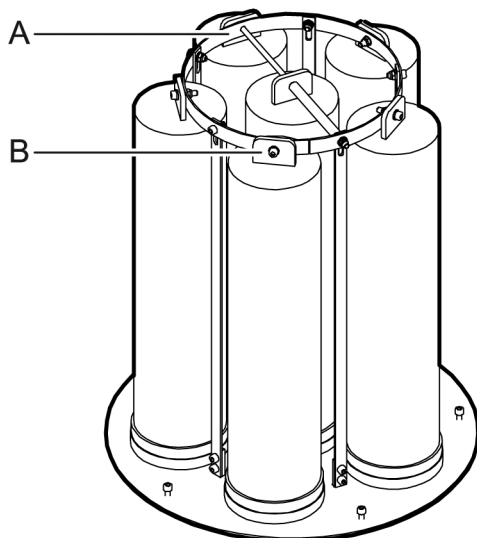

Figure 5-3. Sock filter cassette
1. Loosen the appropriate screw joint (position B in *Figure 5-3, page 29*) on the top of the sock filter cassette, so the top of the sock filter is released.
4. Install a new sock filter. Check that the fastening on the top of the sock filter lies along the assembly ring (position A in *Figure 5-3, page 29*) to ensure that the sock filter ends up in the right position and is not twisted after assembly.